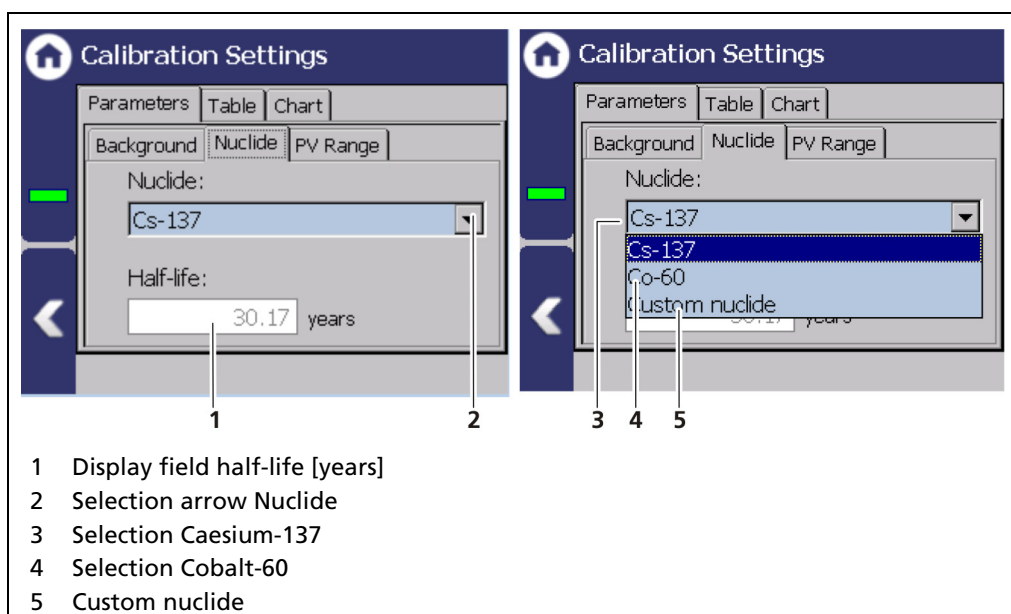

Fig. 77 Calibration Parameters: Nuclide
The isotope used can be selected in the "Nuclide" tab. The half-life of the isotope is shown on the display field (Fig. 77, item 1).
1. Click on the selection arrow (Fig. 77, item 2).
2. Select the isotope used. Cs-137 (Fig. 77, item 3) or Co-60 (Fig. 77, item 4). The isotope of the source is on the type plate of the screen (Fig. 78).
3. When selecting "Custom nuclide" (Fig. 77, item 5), the half-life of the isotope can be entered.